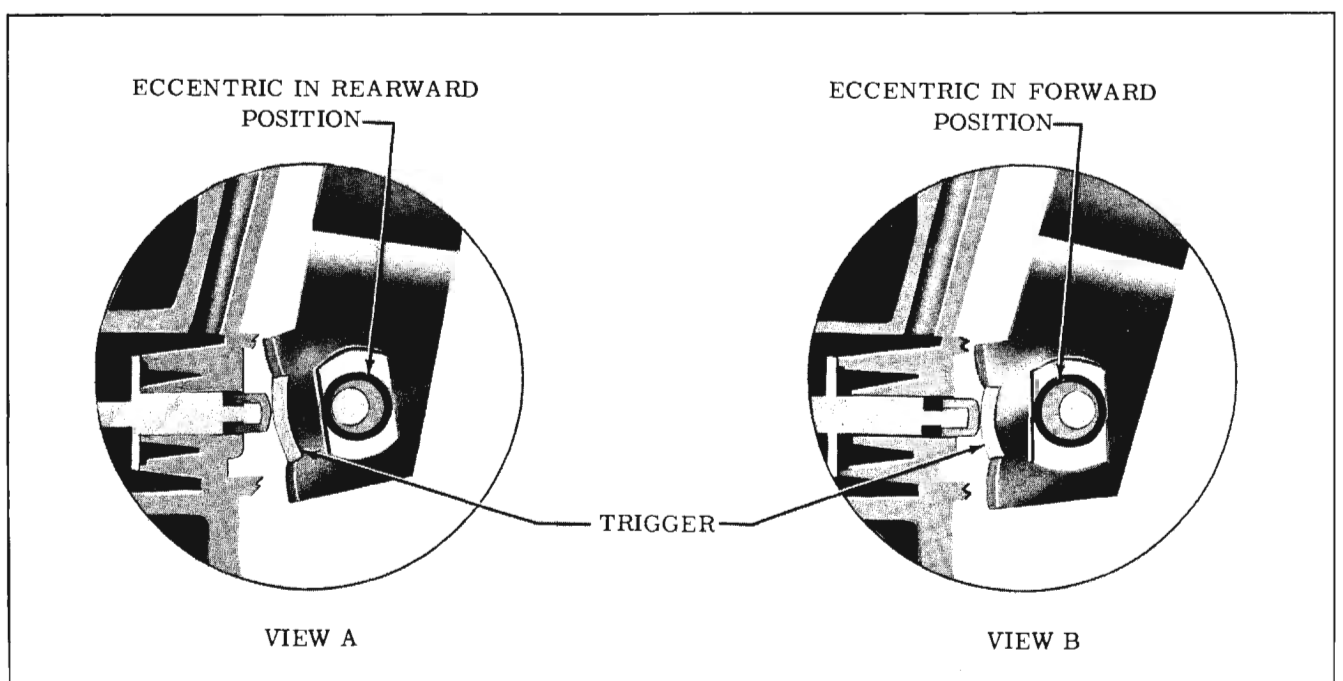

Fig. 7-132 Eccentric Extreme Positions
2. Turn the eccentric to the forward position. (View "B", Fig. 7-132) and apply the pedal in a quick movement, if the unit does not chatter, no further adjustment is necessary. If the unit chatters, turn the eccentric towards the rear position (View "A", Fig. 7-132) until the chatter disappears. Tighten eccentric lock nut 15 to 18 ft. lbs.